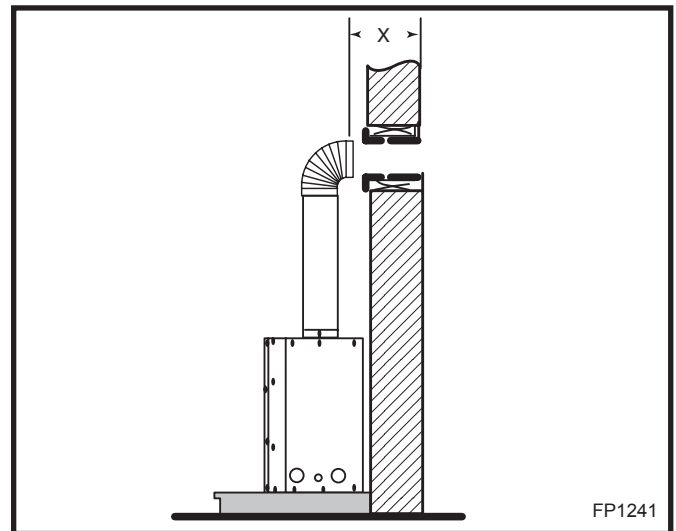

Fig. 20 Horizontal length requirement.
Apply a bead of high temperature sealant to the inner and outer flue collars of the fireplace and using appropriate venting component(s) attach to fireplace with three (3) screws. (Fig. 20) Follow with the installation
Measure the horizontal length requirement including a 2" (51 mm) overlap, ie from the elbow to the outside wall face plus 2" (51 mm) (or the distance required if installing a second 90° elbow). (Fig. 20)